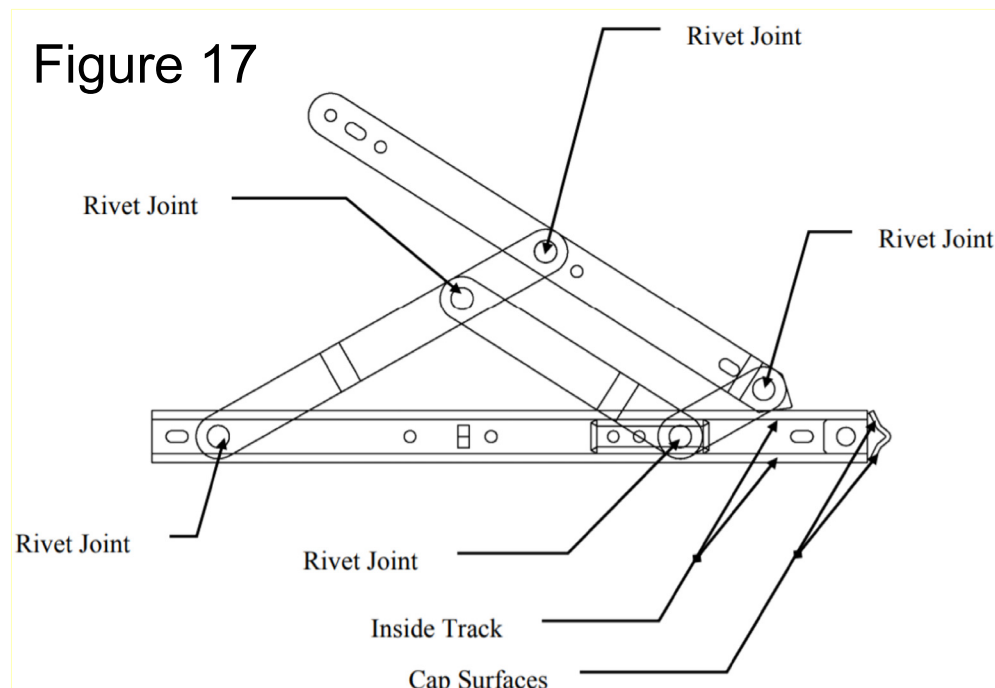

Figure 16
- C. The Key Release type can be disconnected by inserting a special key and pulling the limit arm out of the housing (See Figure 16).